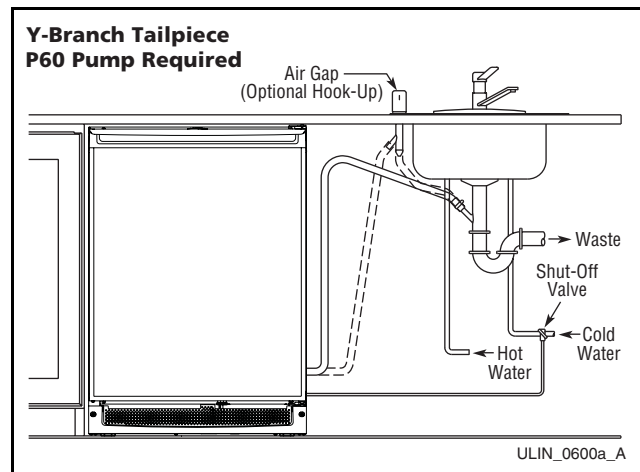

Figure 73
10. Once pushed completely into the opening finish routing the drain tubing to the desired location. Common installations use a floor drain, standpipe, garbage disposal, or Y-branch tailpiece-type drain connection (**Figure 73 - 74**). After the installation is complete, check the unit to ensure it is level both side